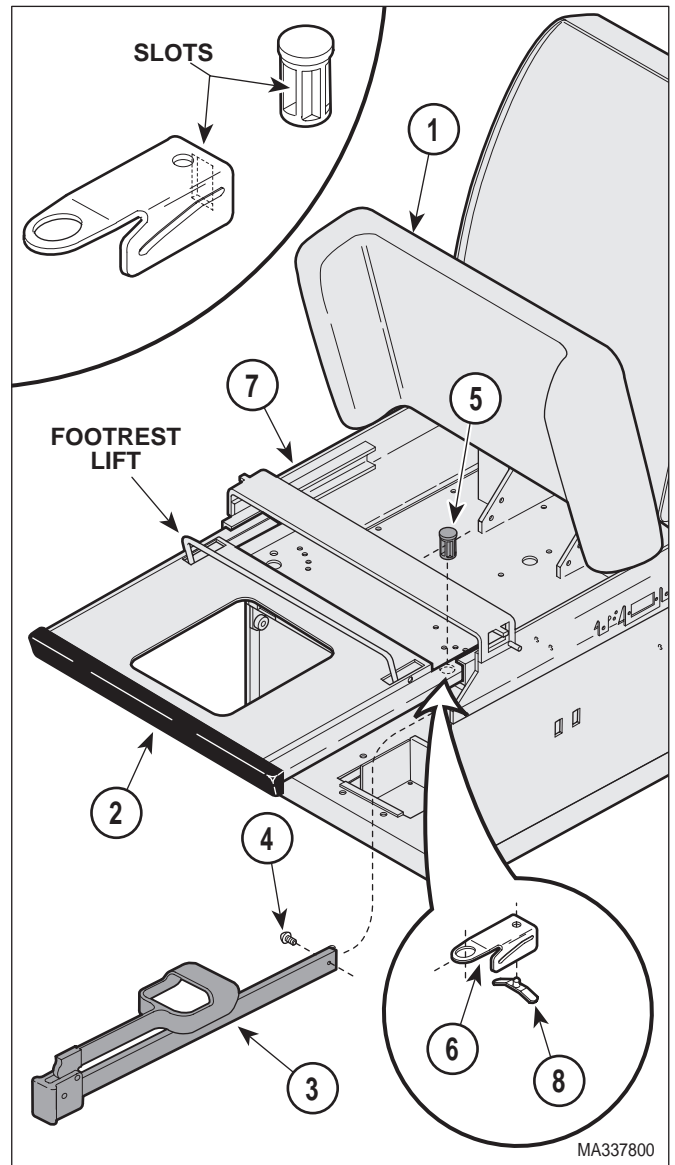

Figure 4-31. Stirrup Components Removal / Installation (later units)
- (1) Raise seat section (1, Figure 4-31) up.
- (2) Pull foot rest section (2) out all the way.
- (3) Pull stirrup (3) out far enough to access screw (4).
- (4) Remove screw (4) from stirrup (3).
- (5) Pull stirrup (3) out of pivot boss (5).
- (6) Remove pivot boss (5) and then guide bracket (6) from upper wrap weldment (7).
- (7) If worn, remove index spring (8) from guide bracket (6).